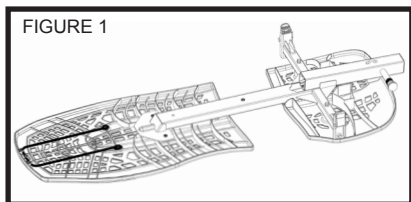

FIGURE 1
- Lay the Upper and Lower Portions face down on the floor (Figure 1).